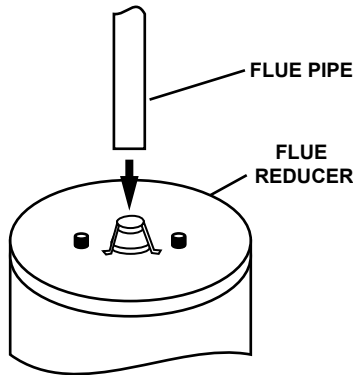

Figure 30: Attach Flue Pipe to Vent Reducer
- Extend the flue pipe downward until it is close to the flue reducer. See Figure 30.